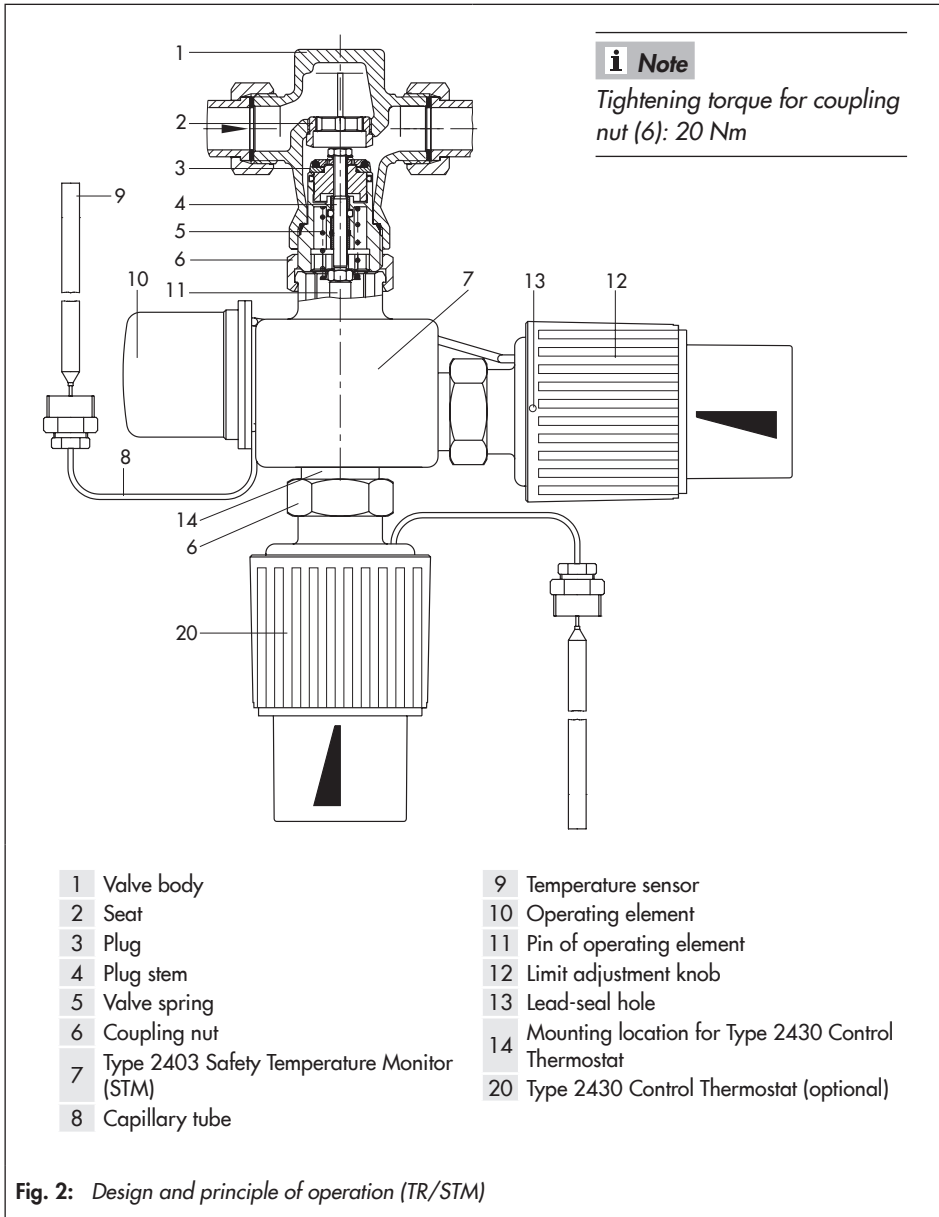

Fig. 2: Design and principle of operation (TR/STM)
The connection of an additional Type 2430 Control Thermostat (20) converts the safety temperature monitor (7) into a temperature regulator with safety temperature monitor (TR/STM). See Fig. 2.